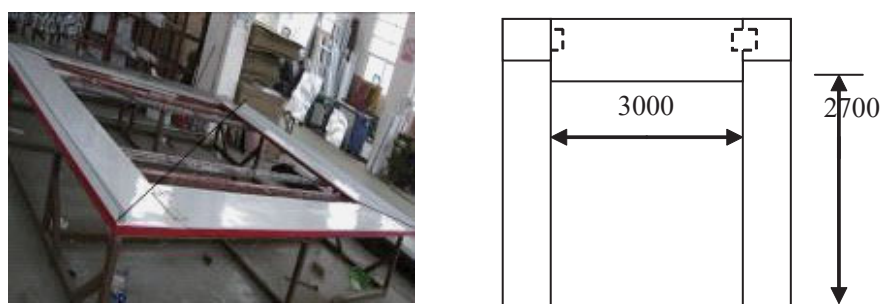

Fig. 2.18
- 2) Measure the diagonal of the length and width,when they are suitable for the demand of the door frame size (shown in Fig.2.18),fix the door frame with appoint connect board.Pay attention to that check the sizes of the door frame after fixing.